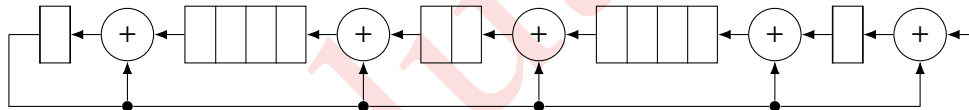

Figure 4.1: Simplified shift register implementation of a CRC scheme
4.6 Give the CRC generator polynomial that is implemented by the linear feedback shift register shown in Figure 4.1.